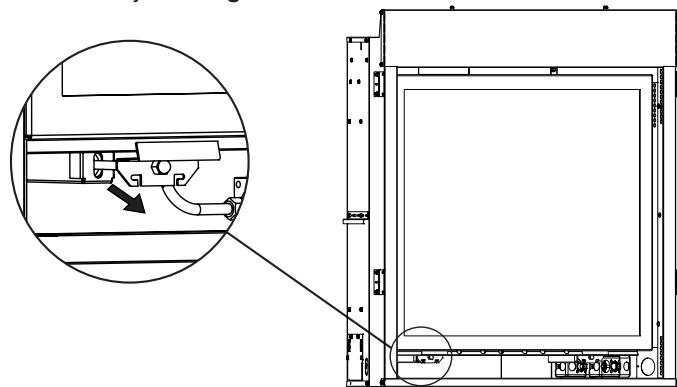

Figure 5
- Pull outward to release both latches at bottom of firebox assembly. **See Figure 5.**
22. Reinstall the glass frame removed in steps 2 and 3. **See Figures 5 and 6.**